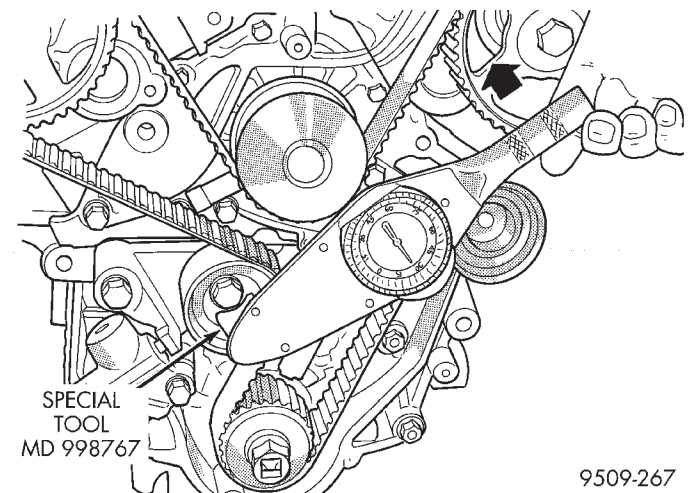

Fig. 58 Adjusting Drive Belt Tension
(5) Apply rotating force to the crankshaft sprocket in the clockwise direction, to tension belt, check that all timing marks are aligned.
(6) Using Special Tool MD 998767 and a torque wrench on the tensioner pulley. Apply 4.4 N·m (38.9 in. lbs.) of torque to tensioner (Fig. 58). Tighten tensioner pulley bolt to 48 N·m (35 ft. lbs.).
(7) With torque being applied to the tensioner pulley install the tensioner to the tensioner pulley bracket and tighten fasteners to 23 N·m (205 in. lbs.).